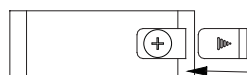

Fig.2
- Insert CR2032, the positive side should face up(Fig.2)